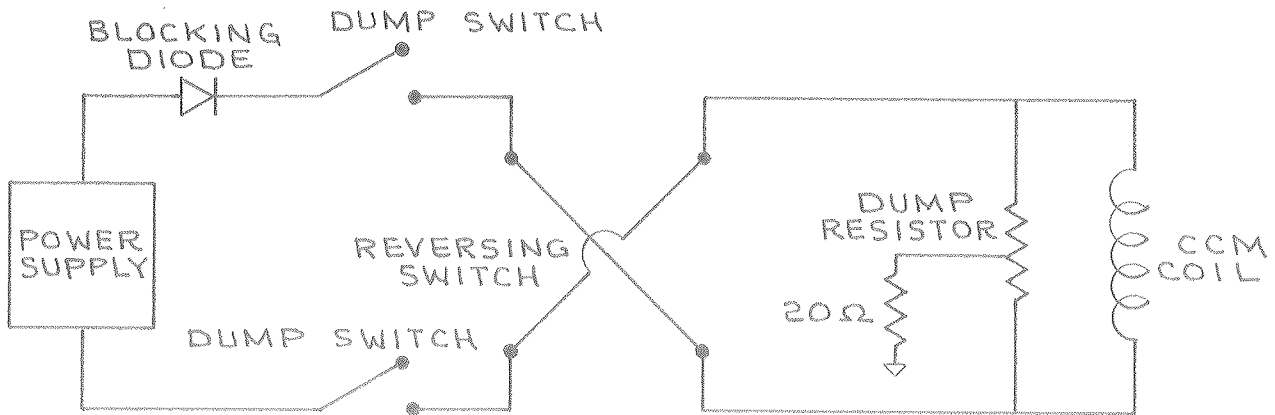

Fig. 1. Electrical schematic for CCM
Figure 1 below gives an electrical schematic of the bus for the Chicago Cyclotron Magnet (CCM).
5. Check the wiring to see if it is per Fig. 1.